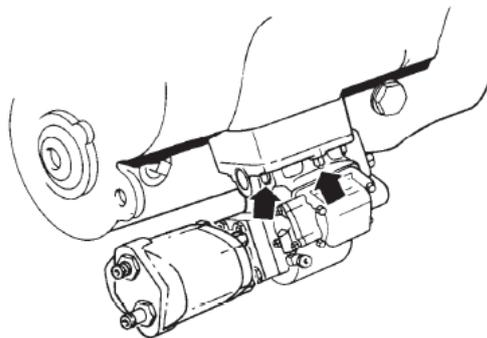

Figure 4 Location of Retaining Nuts
- e. Remove the six retaining nuts and washers securing the PTO and adapter to the transmission (Figure 4).